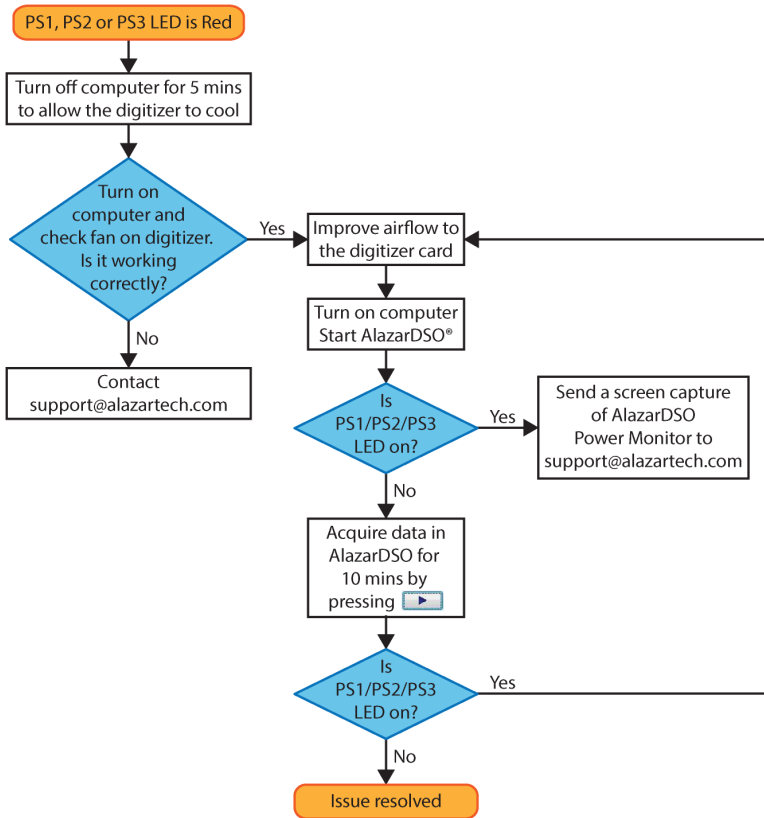

Figure 4 – Flowchart for Power Monitor Status LEDs
- PS3: Power Monitor error output from the board. This LED being red indicates that there is an overheating or power supply issue. Refer to *Figure 4 – Flowchart for Power Monitor Status LEDs* for steps to follow if this LED is red.
- **PS2:** Power Monitor error output from the board. This LED being red indicates that there is an overheating or power supply issue. Refer to *Figure 4 – Flowchart for Power Monitor Status LEDs* for steps to follow if this LED is red.
- **PS1:** Power Monitor error output from the board. This LED being red indicates that there is an overheating or power supply issue. Refer to *Figure 4 – Flowchart for Power Monitor Status LEDs* for steps to follow if this LED is red.